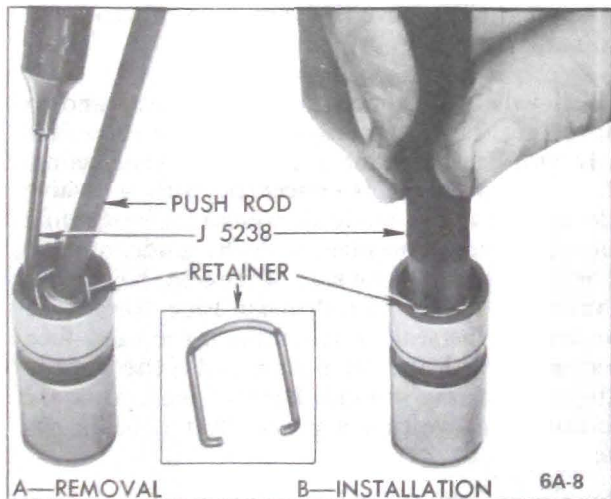

Figure 6A-8 Plunger Retainer
8. Disassemble valve lifter by using a push rod to hold down the push rod seat while removing the plunger retainer from the lifter body using Retainer Remover J-5238. See Figure 6A-8.
9. Remove the push rod seat and metering valve. See Figure 6A-9.